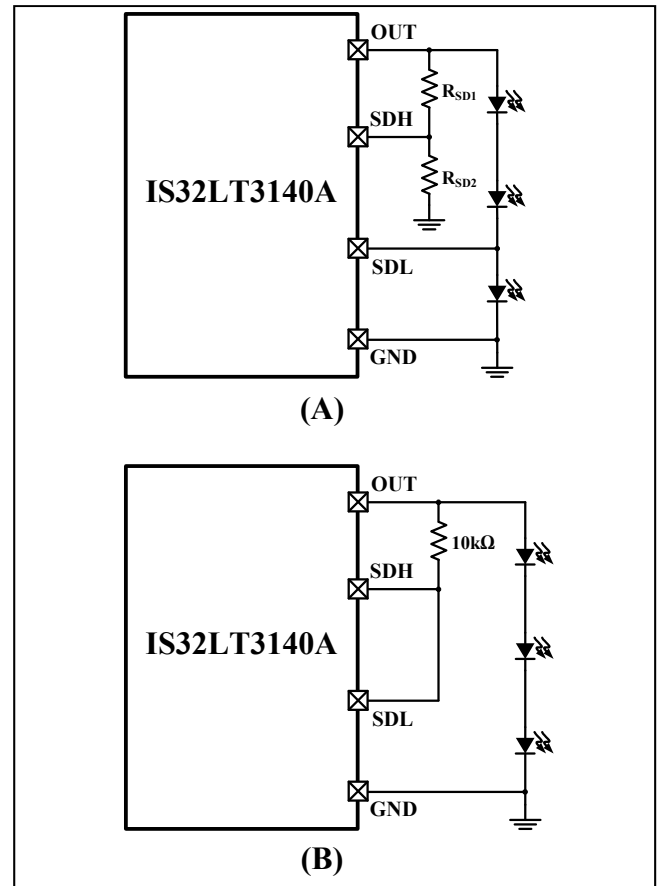

Figure 53 SDH and SDL Connection
In the application, the SDL pin is connected to the anode of the bottom LED and the SDH is connected to OUT pin via a proper resistor divider; Figure 53 (A). The device uses the input voltage of the SDL pin, the forward voltage of the bottom LED, as the reference voltage of the CMP1 to monitor the SDH pin voltage. In case of any upper LED is shorted, the SDH pin voltage V_{SDH} will drop down. If it drops below V_{SDL} but greater than V_{SSH_TH} and persists for longer than the deglitch time t_{FD_SS} , the single LED short protection will be triggered and the FAULTB pin will go low to report the fault condition. The resistor divider ratio can be calculated by:
When the single LED short protection is unused, SDH and SDL pins must be connected together to OUT pin via a 10kΩ resistor. As Figure 53 (B).